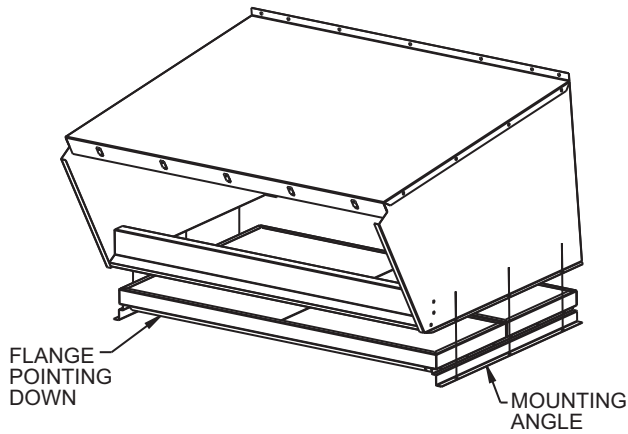

Fig. 35 — Bottom Filters Installed with Flange Pointing Down
12. Attach filter track under the hood assembly. See Fig. 35.